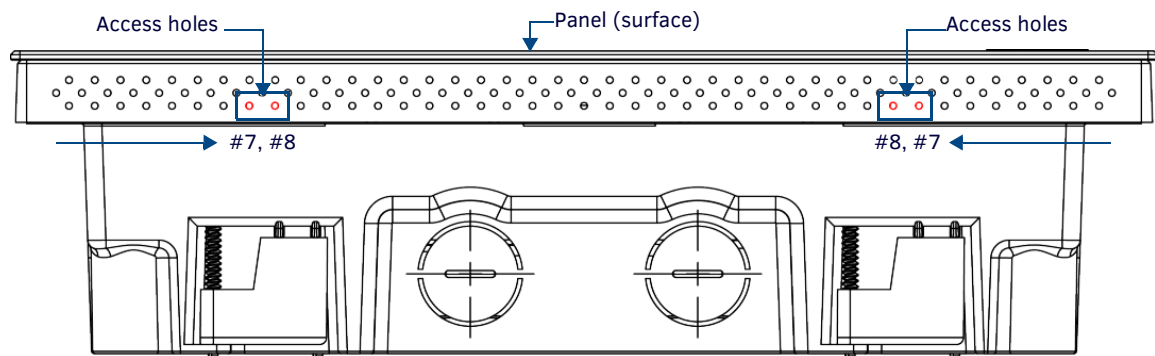

FIG. 48 Bottom View (Landscape) or Right-Side View (Portrait) of the MXD-1001 showing access holes in molding
2. On the bottom (Landscape) or right side (Portrait) of the MXD-1001, locate the **seventh and eighth** ventilation holes from each edge, on the row closest to the Backbox (FIG. 48):
2. On the bottom (Landscape) or right side (Portrait) of the MXD-701, locate the **fifth** ventilation holes from each edge, on the row closest to the Backbox (FIG. 48):.